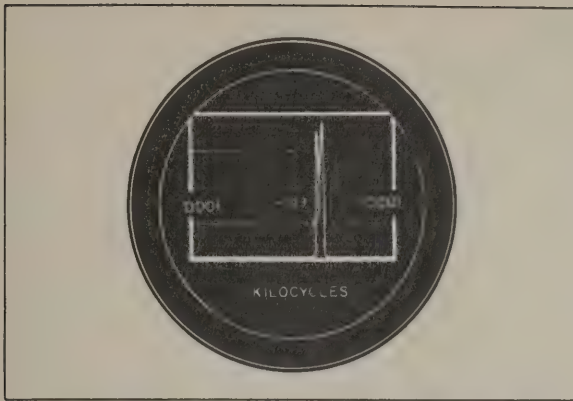

Figure III-5. Two Interfering Carriers at Maximum Sweep Width.
g. Signal interference (Fig. III-5, and III-6). Two signals which are so close in frequency as to cause aural interference (beats) may appear on the screen as a single deflection, varying in height as with a modulated signal. As the frequency separation is increased, the deflection appears to be modulated on one side only. Further increase of frequency will cause a "break" in the apex of the deflection. By reducing the sweepwidth of the Panadaptor, the respective deflections can be gradually separated.